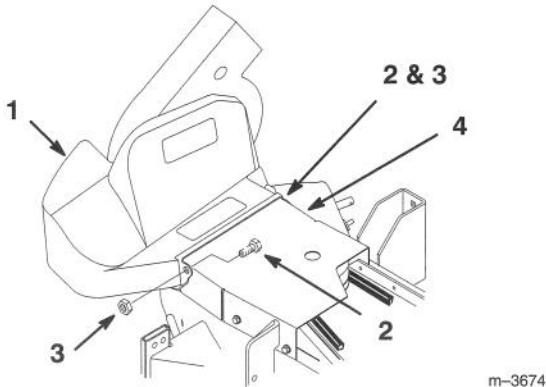

Figure 28
1. Remove the blower belt cover by removing (2) 1/4" locknuts and 1/4 x 5/8" (16 mm) bolts (Fig. 28).